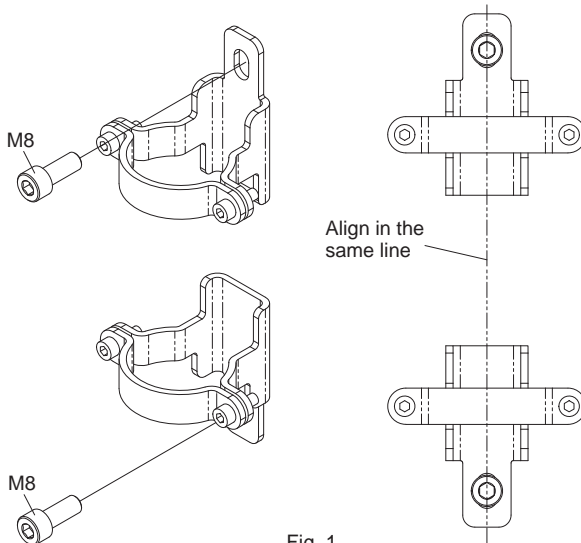

Fig. 1
1. Securely tighten the screws to fix the separately sold bracket (F39-LSGTB-K) to the mounting position of the wall surface (Fig. 1)